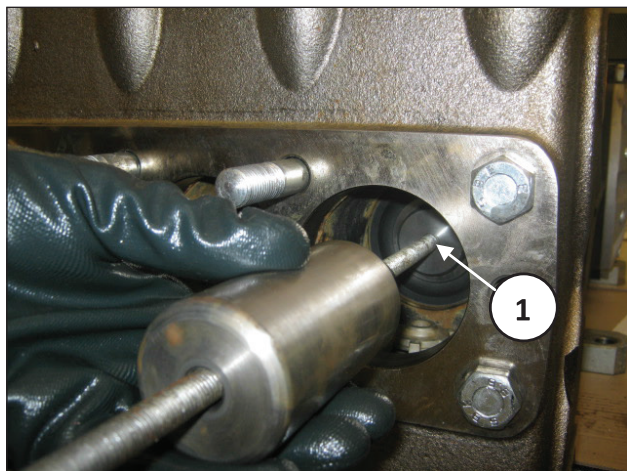

Fig. 131
If necessary it is possible to use the M10 hole to extract the fastening bush seal with an extractor hammer (pos. ①, Fig. 131).